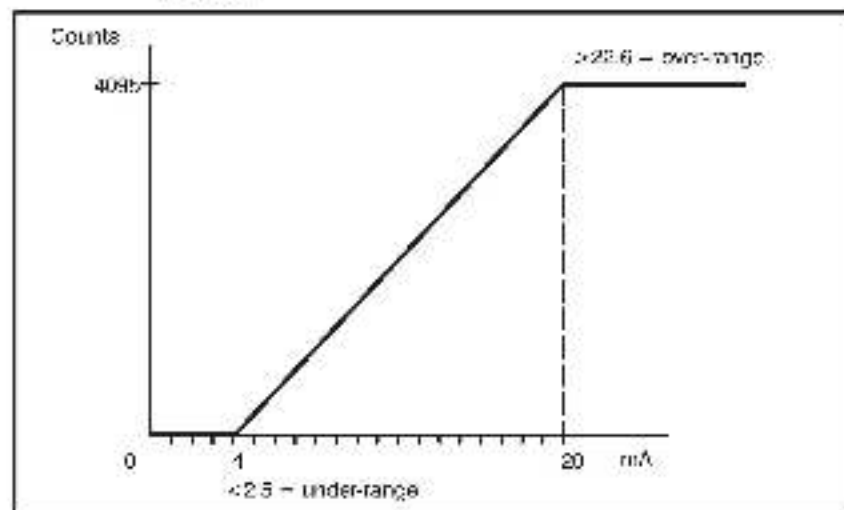

Figure 4.1 - Input Signal Conversion
When creating application programs, the programmer must estimate the magnitude of input signals and output data because both must be in the specified range of the Analog Rail module ($\pm 20\text{mA}$). Input signals greater than 20mA will be clamped at 4095. Signals greater than approximately 22.6mA will also cause the over-range bit (12 decimal; 14 octal) to be set to 1. Input signals less than 4mA are clamped at zero (0). Signals less than approximately 2.0mA will also cause the under-range bit (13 decimal; 15 octal) to be set to 1. See Figure 4.1.